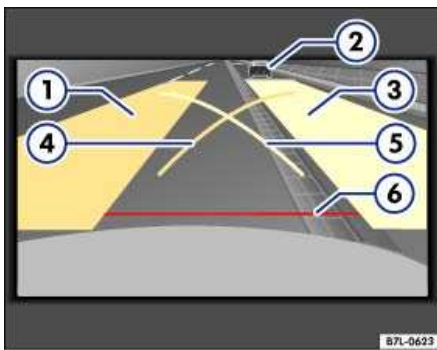

Fig. 17 Illustration of the parking area behind the vehicle right (1), and left (2)
- Back up and align your vehicle in such a way that the light yellow surface shown on the screen ⇒ Fig. 17 (3), ends in front of a possible obstacle (e.g. another vehicle) (2). The surface represents the required space to park and must therefore fit completely into the parking space.
When either the right or left turn signal is on, the orientation lines and marked surfaces left ⇒ Fig. 17 (1) and (4), or right (3) and (5) are switched off for the current parking maneuver. During the next parking
Color	Meaning of the orientation lines and marked surfaces ⇒ Fig. 17